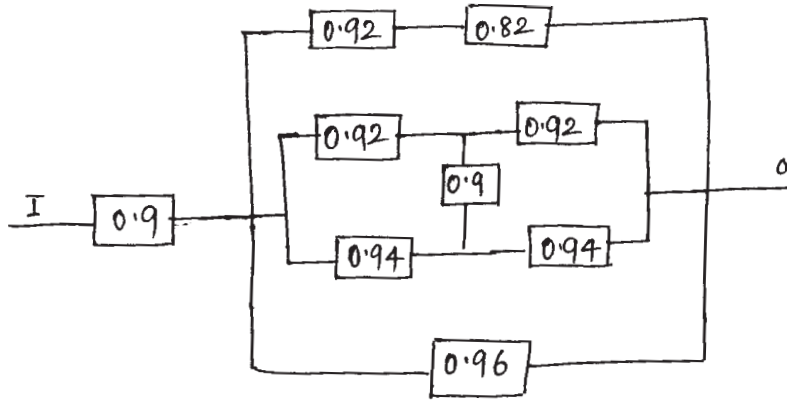

Fig. 3
- b)** Using conditional probability method, evaluate the reliability of the system shown in figure 3. [12]